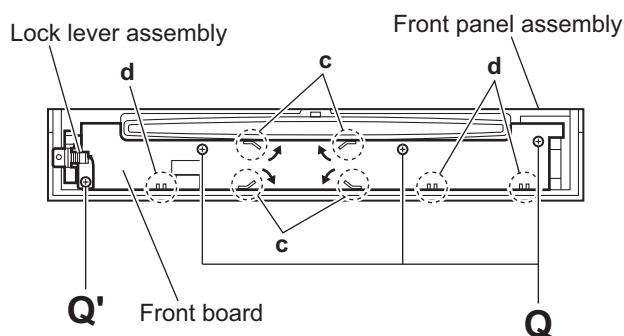

Fig.14
3.1.7 Removing the front board (See Fig.14)